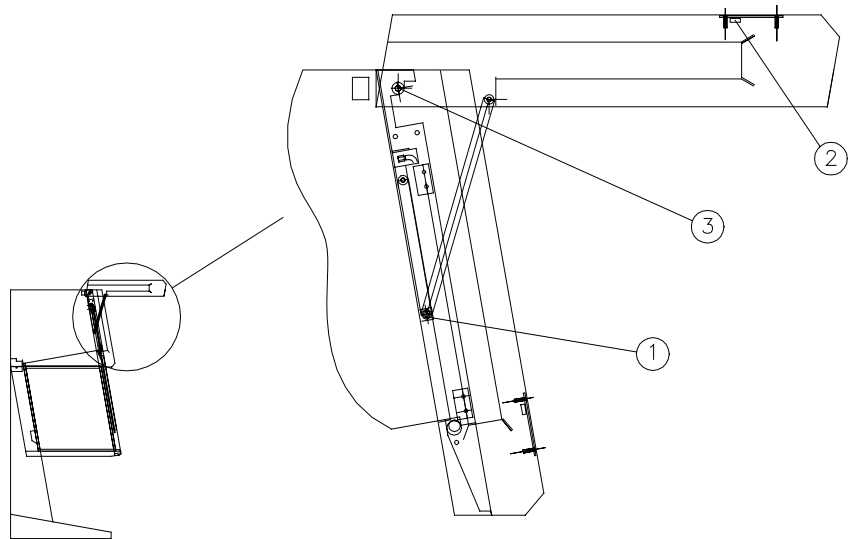

Figure: 1
1. Dismount the screw for the gas spring, pos.1-fig.1
2. Pull out the plug for the control panel, pos.2-fig.1.
3. Dismount the screw for the lamp-shield, pos.3-fig.1.